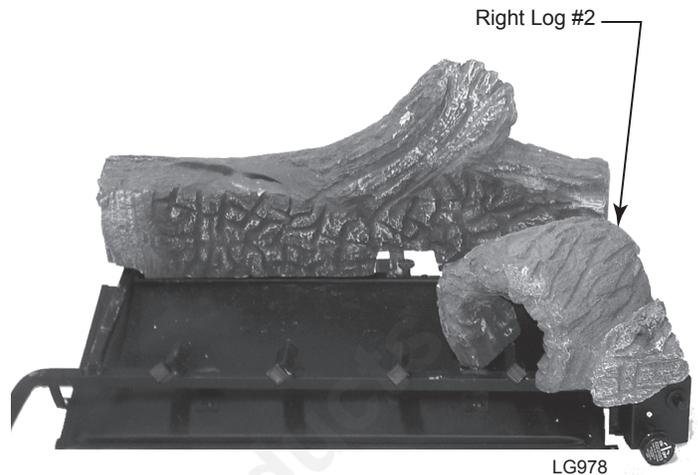

Figure 16
2. Install the right log (#2) on top of the control cover. Slide the log back until touching the rear log (#1). Visually check to verify the log is resting on the grate and control cover. *Figure 16*